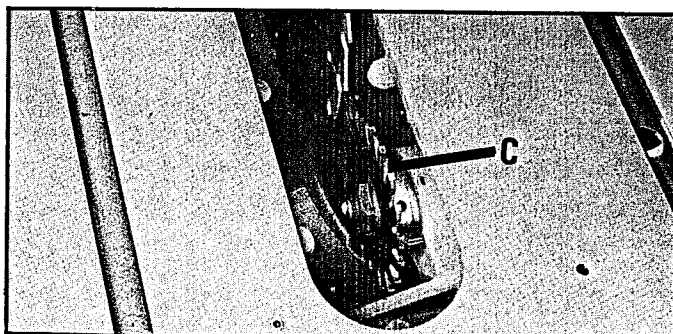

Fig. 11
2. Place scoring blade (C) on arbor and reassemble blade flange and arbor nut, as shown in Fig. 11. Teeth of scoring blade must point down on rear edge nearest to saw blade.